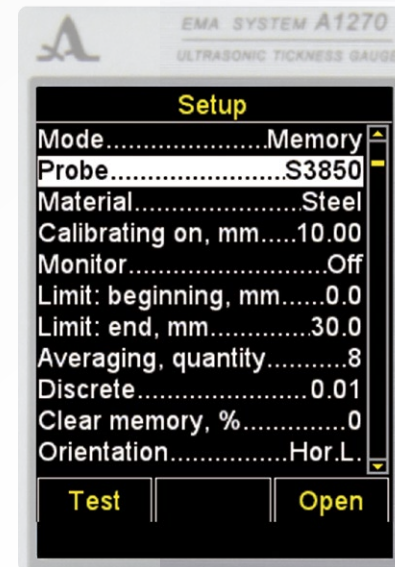

Figure 15
- using the keys   go to the Probe option and press the F3 key (Open) or  to enter the library of the transducers (probe) (Figure 15).